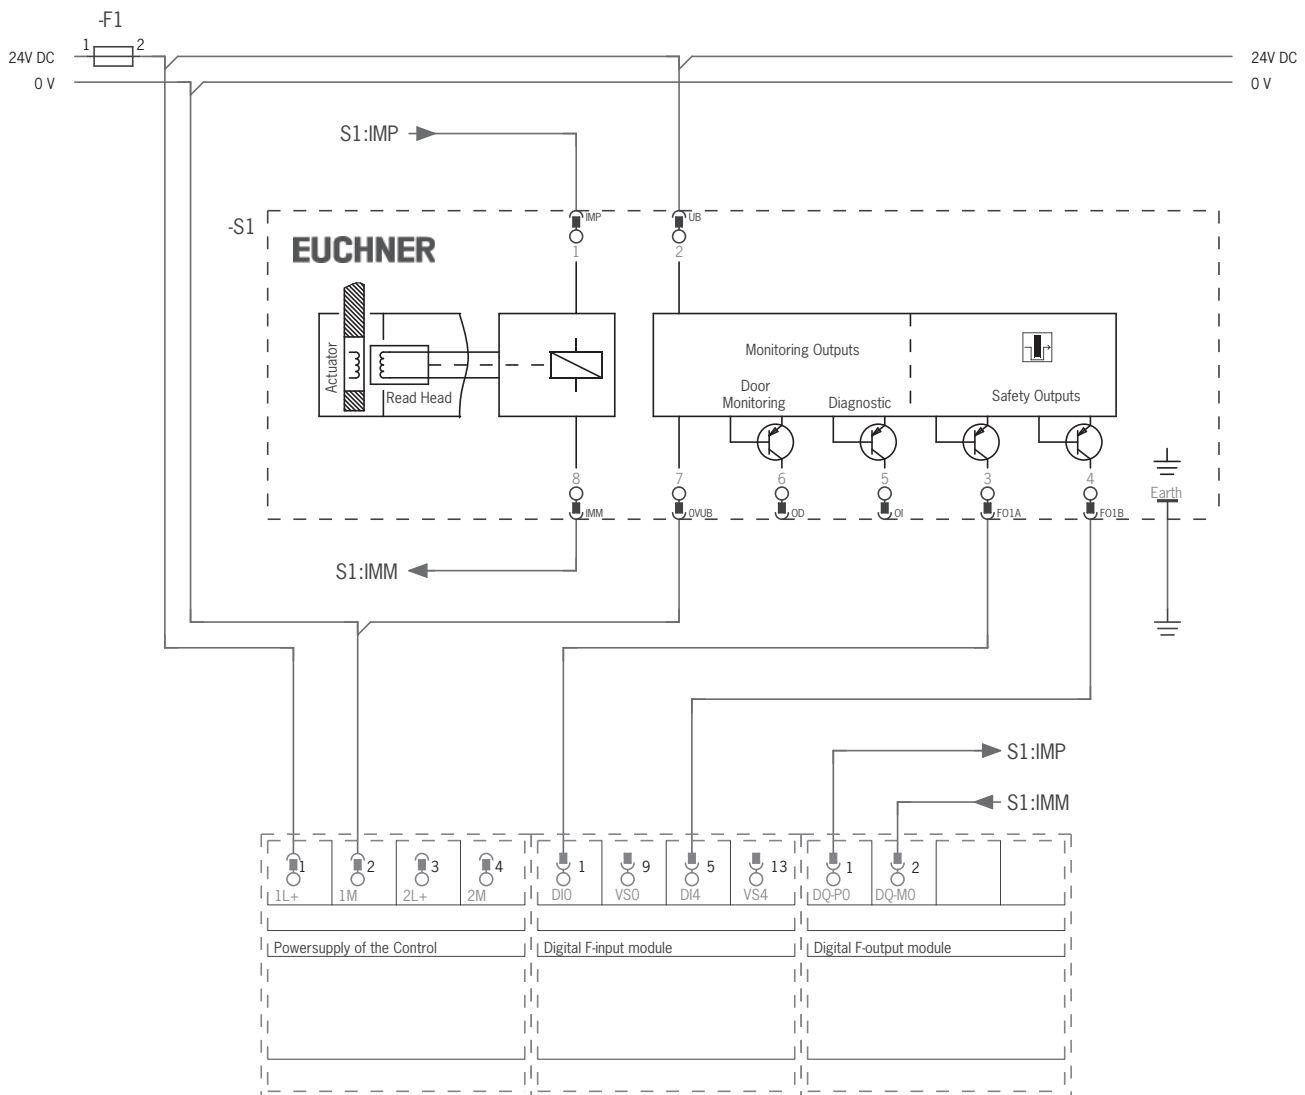

Fig. 4: Connection example for the connection to ET200
- › For dual-channel control of the solenoid voltage by safe outputs of a control system, the following points must be observed (see also Fig. 4 on page 20):